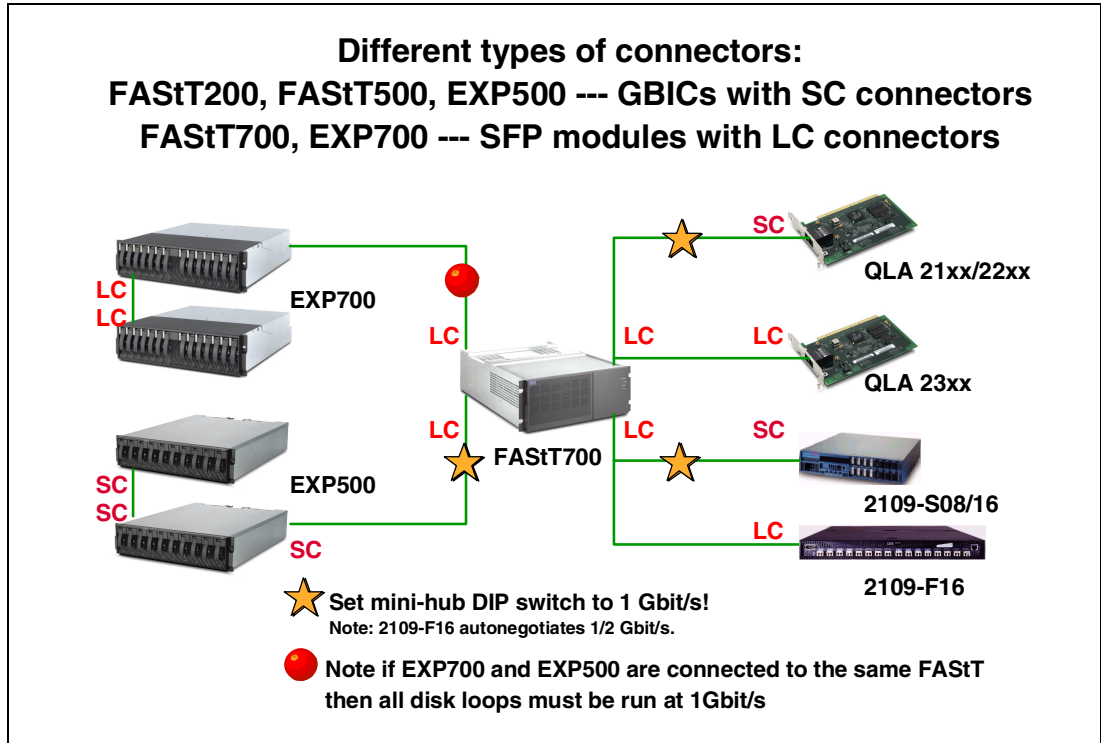

Figure 2-19 Connectors and cable types
- ▶ When planning the cabling from FAST700, use care to ensure that the correct cables are ordered with the correct connectors, SC or LC. Figure 2-19 shows the types of connectors that are used by different components. Therefore, you need converters to connect FAST700 and EXP500, as well as FAST700 and older HBAs and switches.